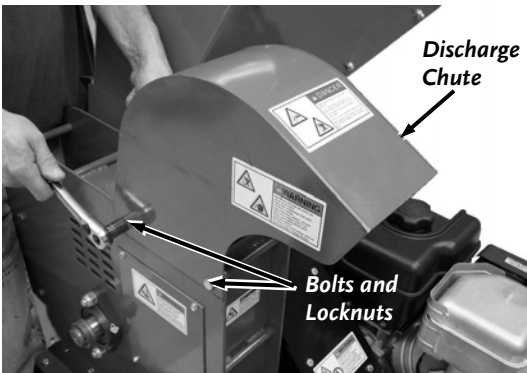

Figure 8
1. Position the Discharge Chute as shown and secure with two 5/16-18 x 5-1/4" Bolts and Nylon Locknuts (**Figure 8**).